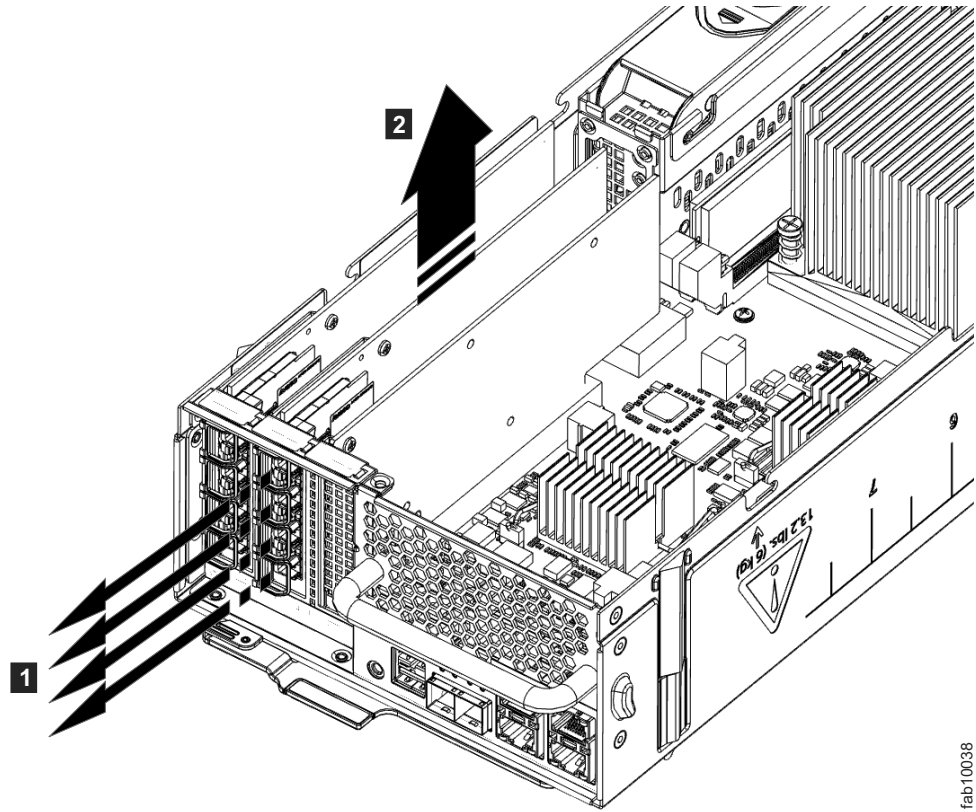

Figure 117. Removing the host interface adapter
5. Gently pull the host interface adapter upward to disconnect it **2**, and then carefully remove it from the canister **1**. Figure 117 on page 373 displays removing the host interface adapter.